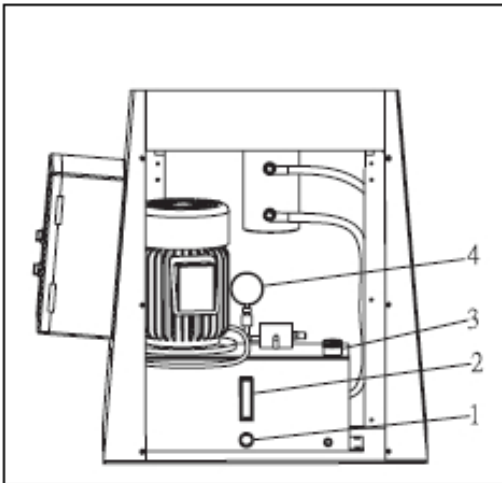

Fig. 11: Filling the oil tank
Step 6: Remove the front cover screws and front cover (Fig. 11).
Step 7: Remove the plug 3 (Fig. 11).
Step 8: Fill the hydraulic oil into the hydraulic oil circuit (approx. 20 litres) until the oil level reaches the 4/5 position of the oil level indicator 2 (Fig. 11).
Step 9: Check that the pressure gauge 4 (Fig. 11) is 150 kg/cm2 (2100 psi).